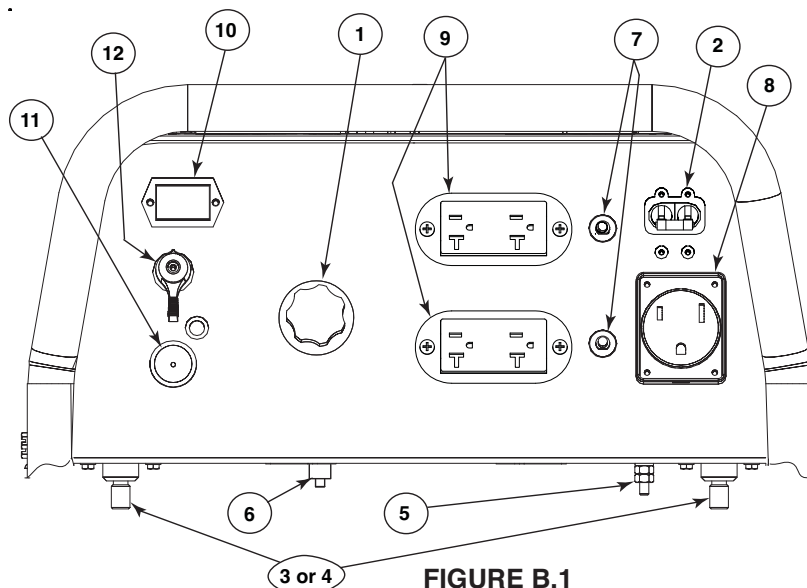

FIGURE B.1
CONTROLS AND SETTINGS All welder/generator controls are located on the Output Control Panel. Gasoline engine controls are mounted on the engine. See Figure B.1 and the figures in engine operation section.
See Figure B.1 for the location of the following features:
1. Remove the flange nuts from the weld output terminals and place the work and electrode welding cables over the terminals. See Figure B.1 and B.1a. Replace and tighten the flange nuts securely. Be sure the connections are tight.
2. Set the current control dial on the output control panel to "MAX." See Figure B.1.